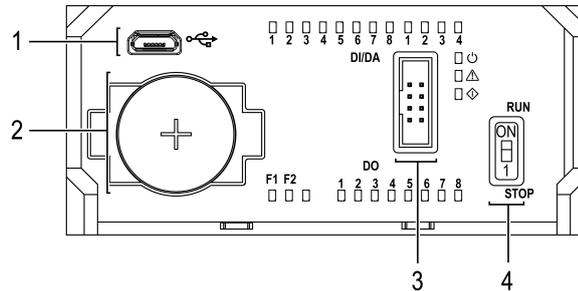

Fig. 6.3 Open front cover
To activate the I/O mode, turn the Run/Stop switch (Fig. 6.3, Pos. 4) to **Stop** position.
1. Connect the PR100 programming socket (Pos. 1 in Fig. 6.3) to PC over a USB-to-microUSB connection cable.
2. Connect the PR100 programming socket (Pos. 1 in Fig. 6.3) to PC over a USB-to-microUSB connection cable.